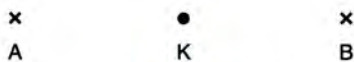

Fig. 10.11
3. In Fig. 10.11, A and B represent two straight wires carrying equal currents in a direction normal to the plane of paper inwards.